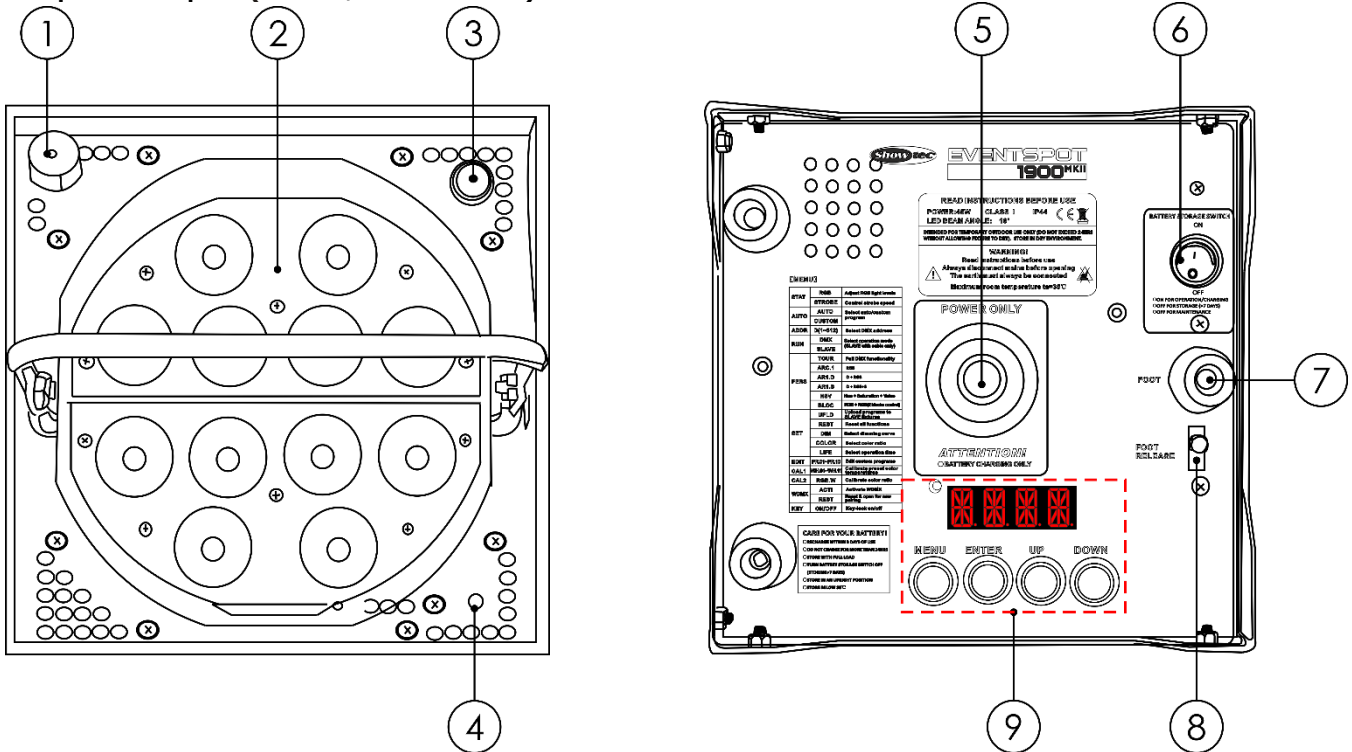

Fig. 03
- 02) Press and hold down the main power button (see Fig. 03, **number 3**) on the front side to switch the power off. The red power LED will dim.
- 03) Make sure the ON/OFF switch (see Fig. 03, **number 6**) on the bottom of your Eventspot is set to ON.
- 05) While the battery is charging, the red charge LED (see Fig. 03, **number 4**) will light up.